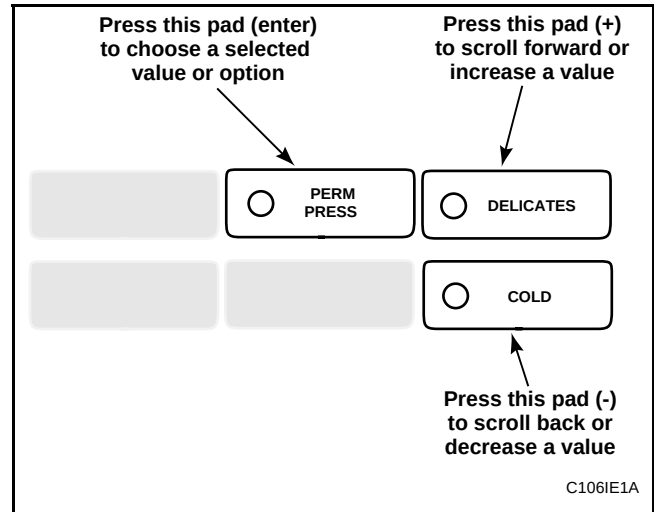

Figure 99
5. Press the DELICATES (+) or the COLD (–) keypad to increase or decrease the day of the month until correct. See **Figure 99**.